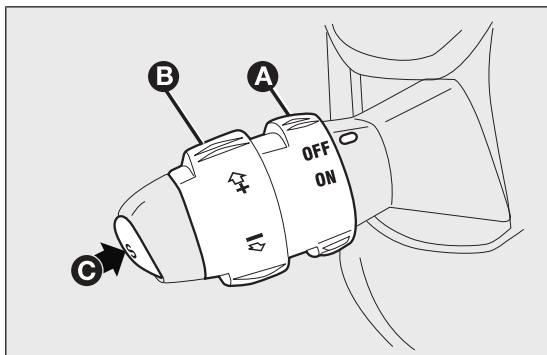

fig. 42
Turn the ring nut A fig. 42 to the ON position.
- turn ring nut A fig. 42 to ON and press the accelerator pedal so that the car reaches the desired speed;
- press button C fig. 42.
- by temporarily turning ring nut B fig. 42 to (+).
- by keeping ring nut B fig. 42 turned to (–) until the new speed is reached; it will then be memorised automatically.
Turn the ring nut A fig. 42 to OFF or turn the ignition key to STOP. The device is automatically turned off in one of the following cases:
*If the device is faulty, turn ring nut A fig. 42 to OFF, check the condition of the protective fuse and contact a Fiat Dealership.*